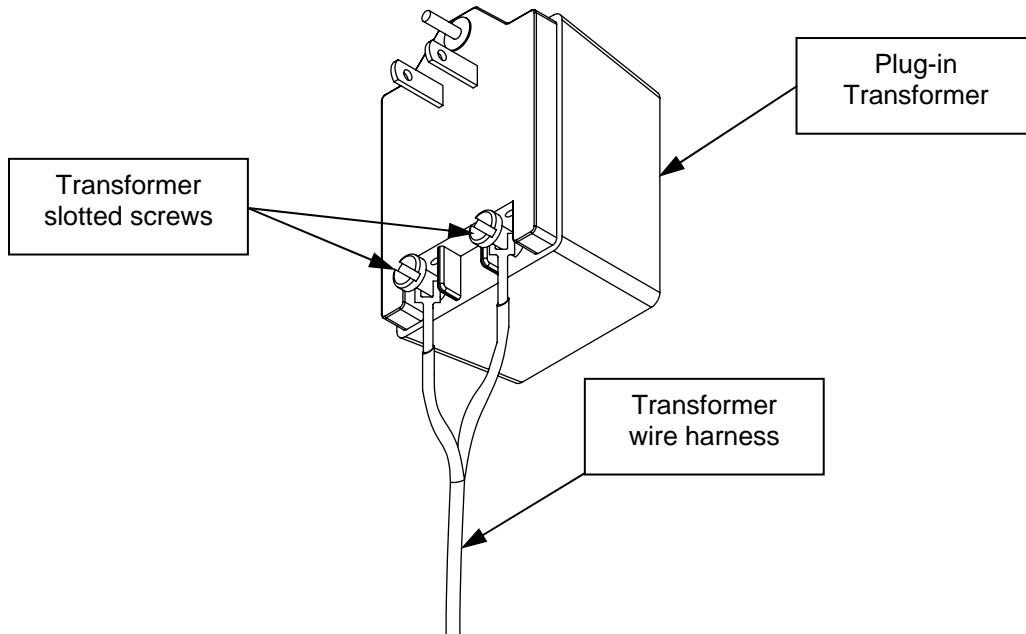

Figure 13
Step 13: Take one end of the transformer wire harness and slide each fork terminal under one of the screws. This is shown in Figure 13.